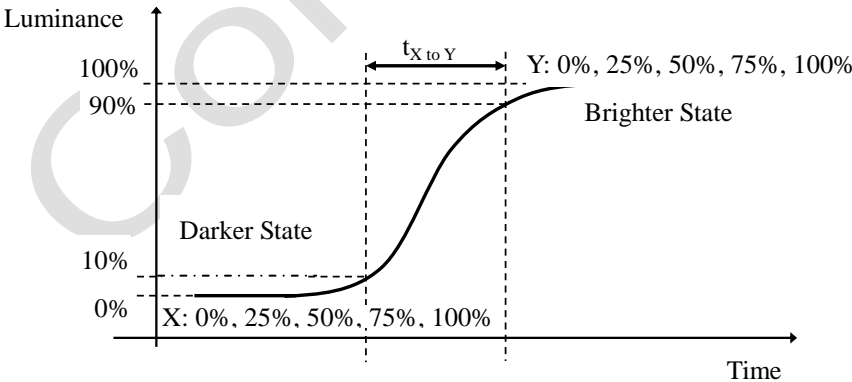

Fig. 6.4 The definition of $t_{X \text{ to } Y}$
(3) Response time T_L is defined as the average transition time in the response time matrix. The table below is the response time matrix in which each element $t_{X \text{ to } Y}$ is the transition time from luminance ratio X to Y . X and Y are two different luminance ratios among 0%, 25%, 50%, 75%, and 100% luminance. The transition time $t_{X \text{ to } Y}$ is defined as the time taken from 10% to 90% of the luminance difference between X and Y ($X < Y$) as illustrated in Fig.6.4. When $X > Y$, the definition of $t_{X \text{ to } Y}$ is the time taken from 90% to 10% of the luminance difference between X and Y . The response time is optimized on refresh rate $F_r = 60\text{Hz}$.